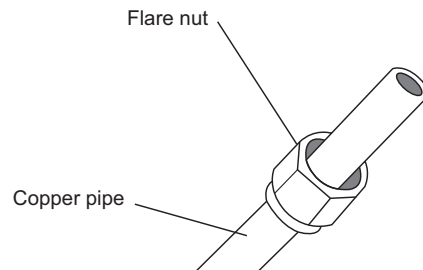

Fig. 8.3
3. Place flare nuts on both ends of pipe. Make sure they are facing in the right direction, because you can't put them on or change their direction after flaring. See Fig. 8.3